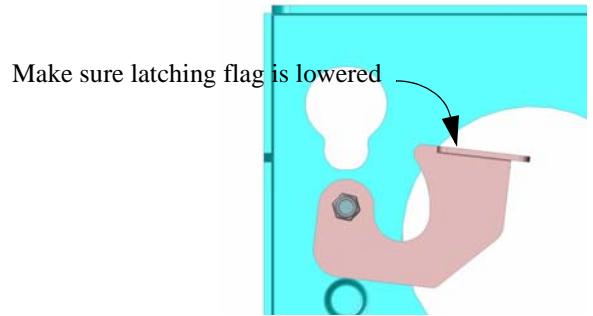

FIGURE 6. LOWER LATCH
2. Before lifting your flat panel display, make sure the latch of the PTS is lowered and will not interfere with mounting the display (see Figure 6).